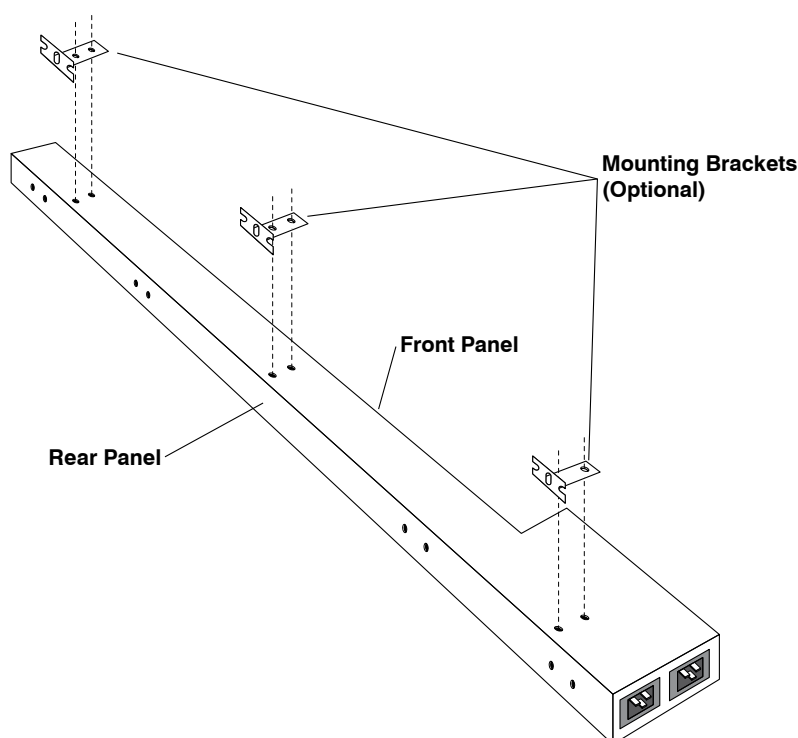

Figure C.5: Installing Optional Mounting Brackets
1. **Attaching the Mounting Brackets to the NBB:** The Mounting Brackets can be attached to the NBB unit using the three pairs of screw holes on either side of the NBB unit. Use screws supplied with the Mounting Bracket kit to secure three Mounting Brackets on one side of the NBB unit as shown in Figure C.5 below.